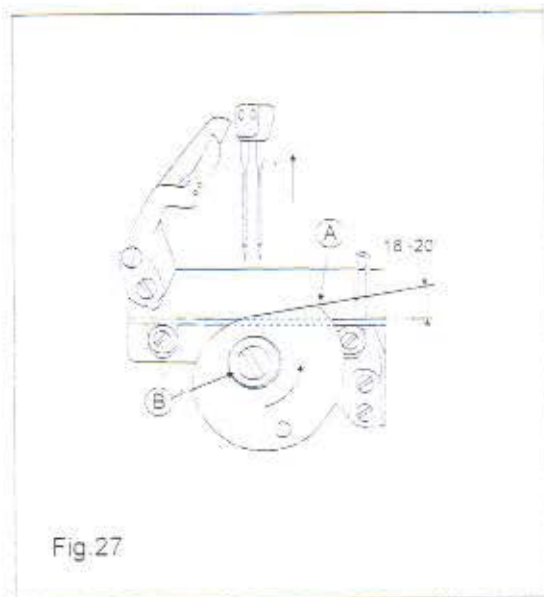

Fig 27
23. Looper thread take-up cam(Fig27)
Its position can be seen as shown in Fig.27 when the needle bar is at the top dead centre, the planes of the cam and the steel wire are in parallelism; the projecting part of the cam can slightly rise at the angle of 18 to 20 degrees. first loosen screw B, and then make adjustment, finally tighten the screw firmly. Pay close attention to the following; the needle tip shall entirely come into the thread loop of the looper when the bobbin thread rejecting from the projecting part of the cam.